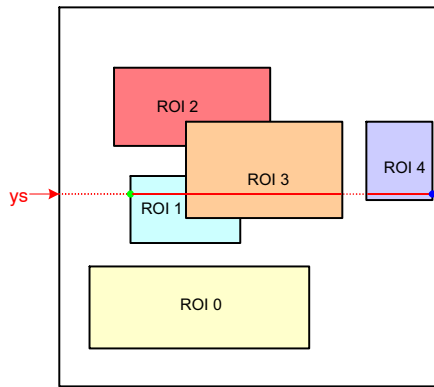

Figure 22. Scanning the Image Array with Five Windows
Figure 22 illustrates a practical example of a configuration with five windows. The current position of the read pointer (ys) is indicated by a red line crossing the image array. For this position of the read pointer, three windows need to be read out. The initial start position for the x-kernel pointer is the x-start configuration of ROI1. Kernels are scanned up to the ROI3 x-end position. From there, the x-pointer jumps to the next window, which is ROI4 in this illustration. When reaching ROI4's x-end position, the read pointer is incremented to the next line and xs is reinitialized to the starting position of ROI1.
- The read pointer is not necessarily incremental by one, but depending on the configuration, it can jump in y-direction. In Figure 22, this is the case when reaching the end of ROI0 where the read pointer jumps to the y-start position of ROI1